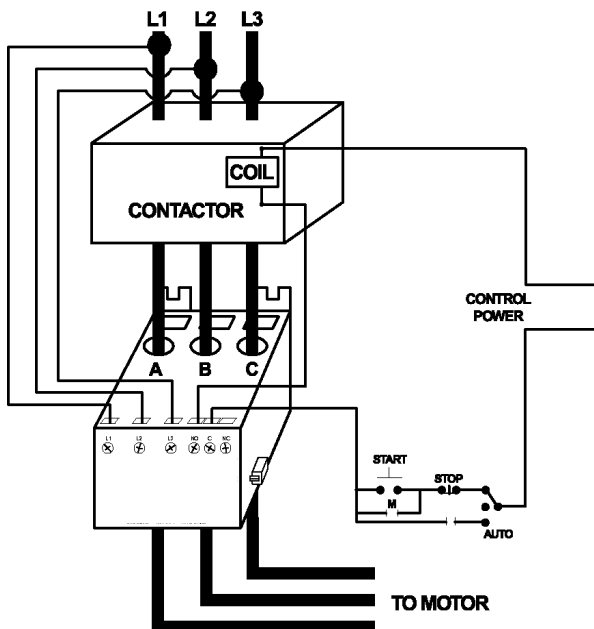

FIGURE 1: Typical Wiring Diagram for FLA of 25-90
3. Insert the motor conductors through the holes marked A, B, and C. Make certain the conductor through each hole corresponds to the right motor conductor, i.e. the A phase conductor should go through the round hole marked A. See Figure 1, 2, and 3 for typical wiring diagrams. See Table 1 for the correct number of conductors with/without external CTs for the size of motor used.
5. Connect the control circuit wires to the appropriate terminals. The relay is designed for fail-safe operation, thus the NO (normally open) contact should be in series with the coil on the contactor for motor control (see Figure 1). For alarm circuits, the NC (normally closed) contact is in series with the alarm circuitry.